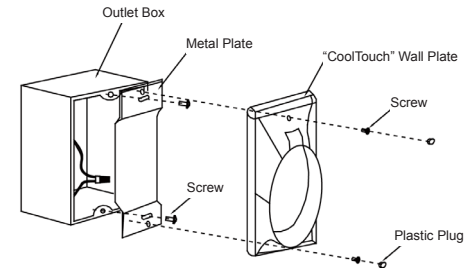

Fig. 25
Step 2. Install the metal plate and “CoolTouch” wall plate to the existing wall outlet box with 4 screws provided. Then place the two plastic plugs into the wall plate. (Fig. 25)